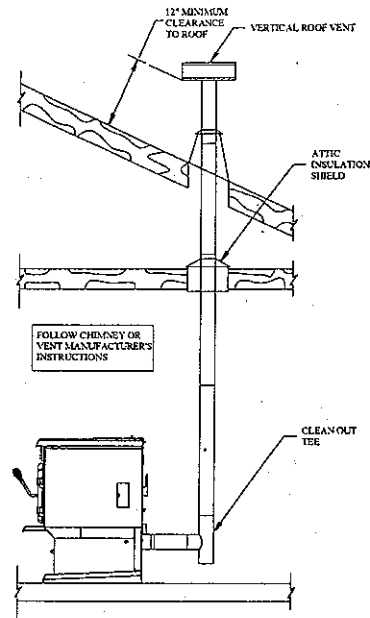

FIGURE 9
A. VERTICALLY WITH NEW CHIMNEY SYSTEM (Refer to Figure 9 & 10 for basement installation)